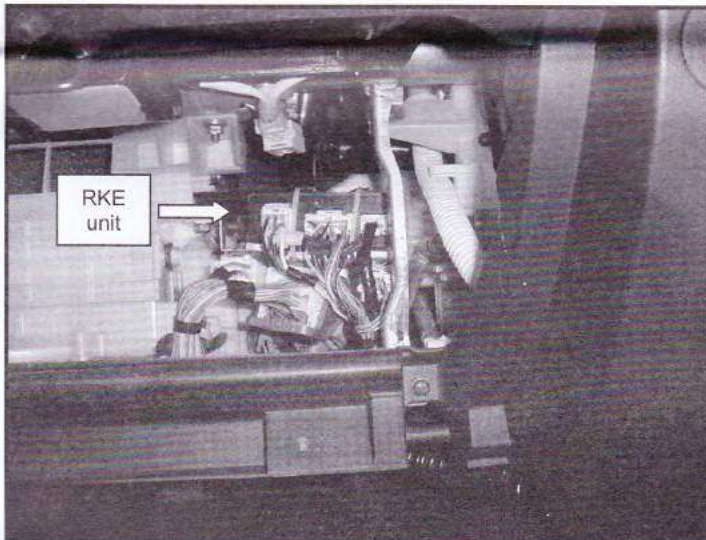

figure 1
3. Working in the passenger glove box, unplug the 6-pin and 24-pin connectors (refer to figure 1).